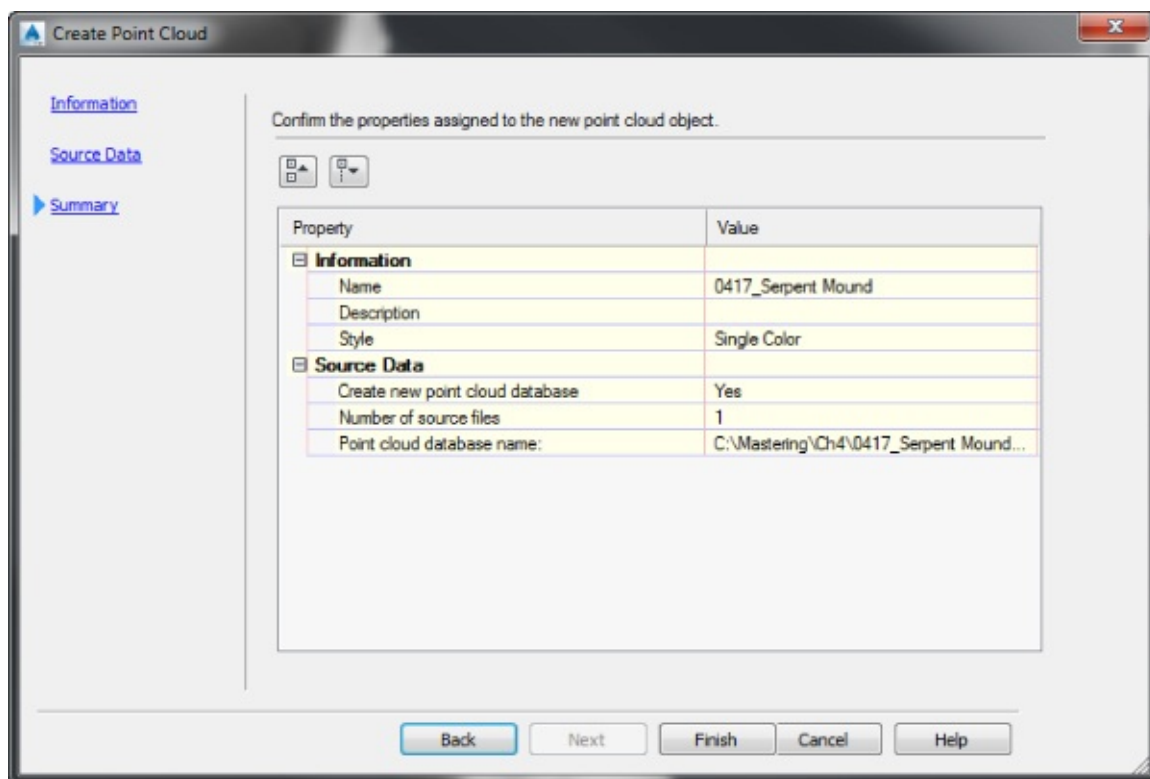

Figure 4.57 The Create Point Cloud – Summary page
- Once the file appears in the Source Data page of the wizard, click the Next button to display the Summary page, shown in Figure 4.57.
8. Accept the defaults, as shown in Figure 4.57, and click Finish to process the point cloud.